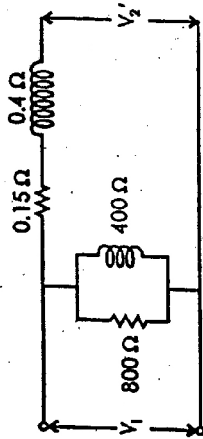

Fig. 4.29
43. The approximate equivalent circuit of a 4 kVA, 200/400 V, single phase, 50 Hz transformer referred to low voltage side is shown in Fig. 4.29.